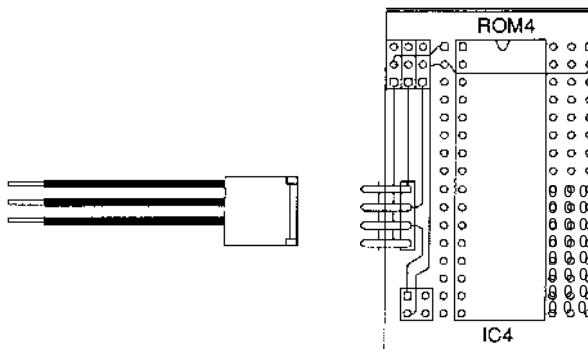

Figure 5 Connecting LK4 on the daughter board
- 4 Now connect the 4-way connector to LK4 on the upgrade daughter board, ensuring that the wires are not twisted. Figure 5 overleaf shows the correct way to connect the cable and board.